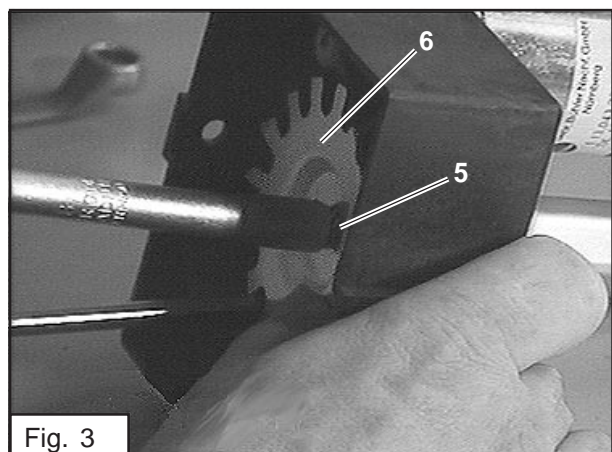

Fig. 3
- In order to remove the tacho disc, it must be fixed. (Fig. 3)
- Now unscrew the nut (5). (Fig. 3)
- Hold the large gear wheel (6) tightly and remove the nut. (Fig. 3)